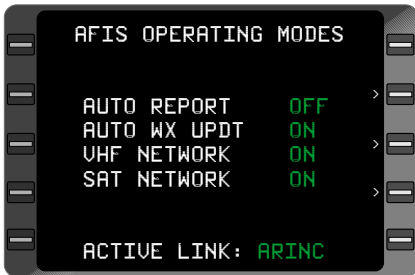

Figure 7-28
**ON:** The appropriate VHF network will automatically be selected whenever the aircraft present position is within the specified boundaries. (Figure 7-28)